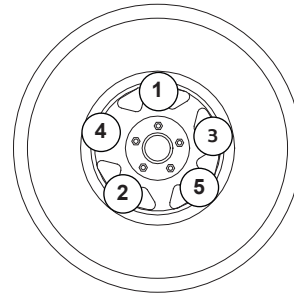

Figure 3-12. Lug Sequence
9. See Figure 3-12 Inspect the wheel lugs. Tighten or replace any lugs that are loose or missing. If a tire has been removed for axle service or replaced, tighten the lugs, in the order shown, to the following specifications: